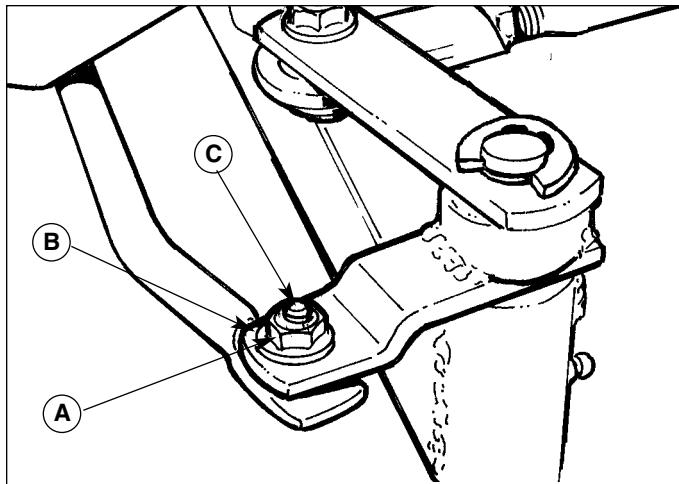

Figure A-16. Tie Rod/ LH Steering Arm Assembly
1. The tie rod can be removed by disassembling the flanged hex lock nuts and carriage bolts that secure the tie rod to the left and right steering arm assemblies (Figure A-16). Use care when removing the hardware to prevent the internal spacers from falling out.